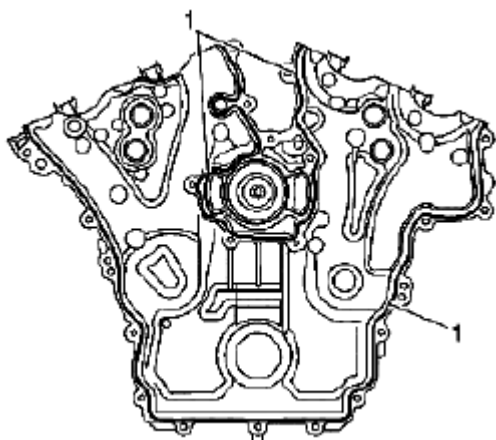

Fig. 941: Placing Bead Of RTV Sealant On Engine Front Cover
3. Place a 3 mm (0.118 in) bead of RTV sealant, GM P/N 12378521 (Canadian P/N 88901148) or equivalent, on the engine front cover as shown in **Fig. 941** (1).